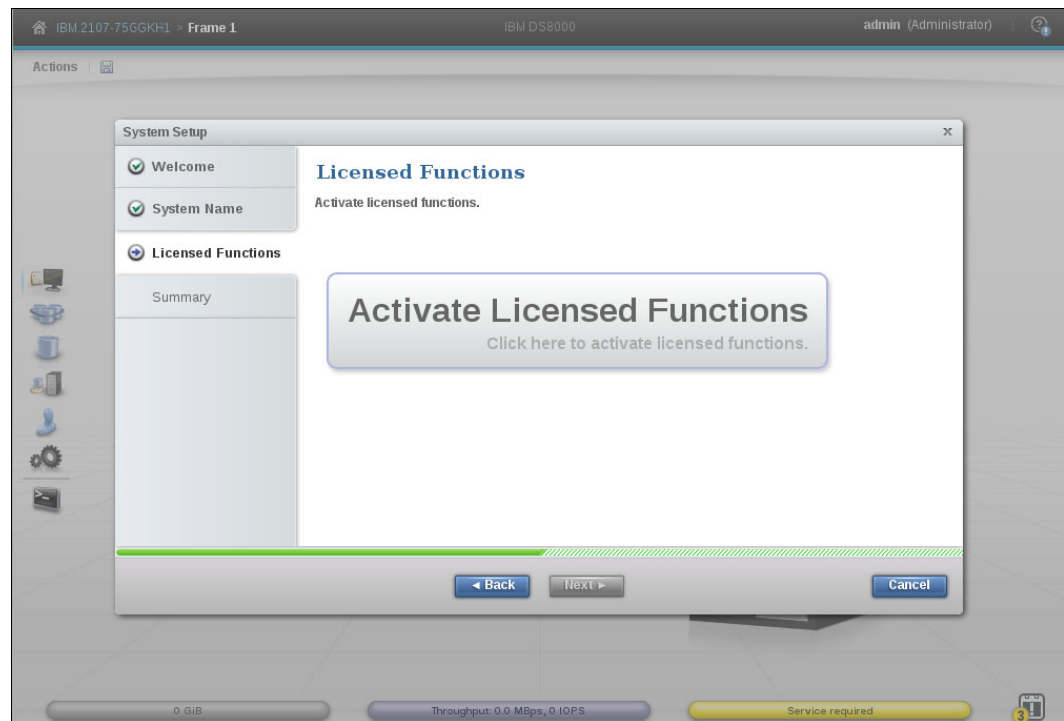
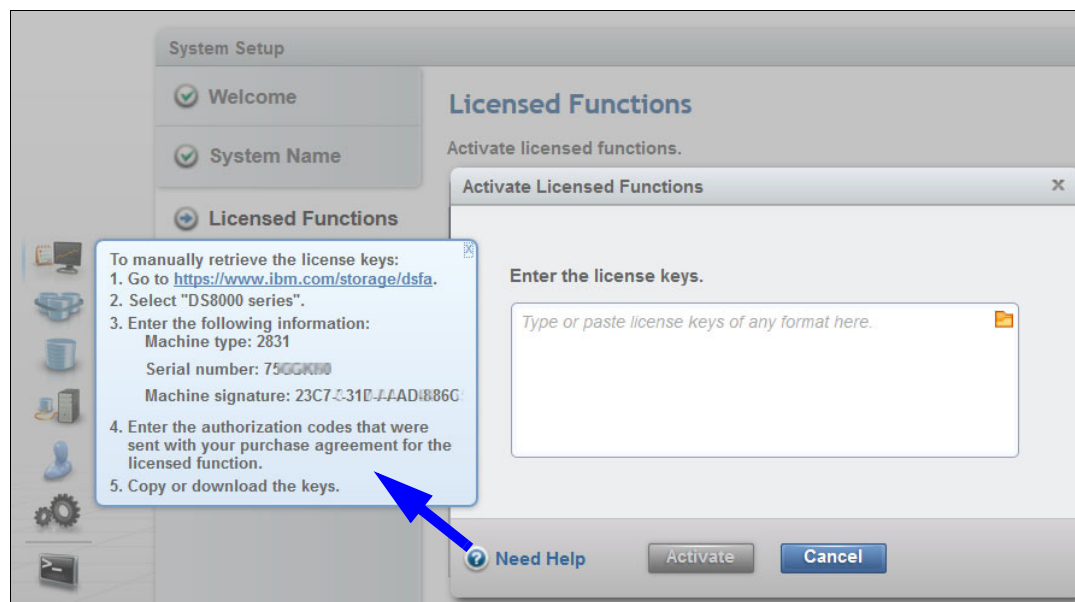

Figure 9-1 Activate Licensed Functions
Figure 9-2 Enter the license keys with help
3. If this machine is new, a System Setup wizard window opens automatically that guides you through the initial setup and configuration tasks, as shown in Figure 9-1.
4. Click **Activate Licensed Functions** (on Figure 9-1) to begin the guided procedure to acquire and activate your feature activation keys, as shown in Figure 9-2.
9. Click **Activate** to enter and activate your licensed keys, as shown in Figure 9-2 on page 256.